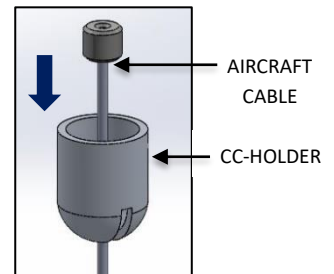

FIG. 11 - SS ROPE CABLE INSTALLATION
7. Locate the AIRCRAFT CABLES. Feed all the AIRCRAFT CABLE through the CC-HOLDER. Once fed all the way through, screw CC-BASE and CC-HOLDER together as shown in FIG. 11.